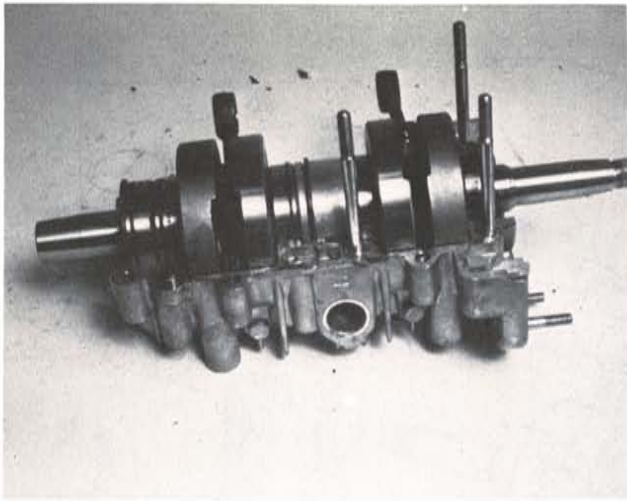

FIG. 21
20. Next remove nuts and cap screws securing crankcase halves together. A sealant is used between the halves. To break the seal, lift the top assembly and tap gently on the crankshaft with a plastic mallet until the halves separate. Lift the top half over the studs. (Fig. 21)